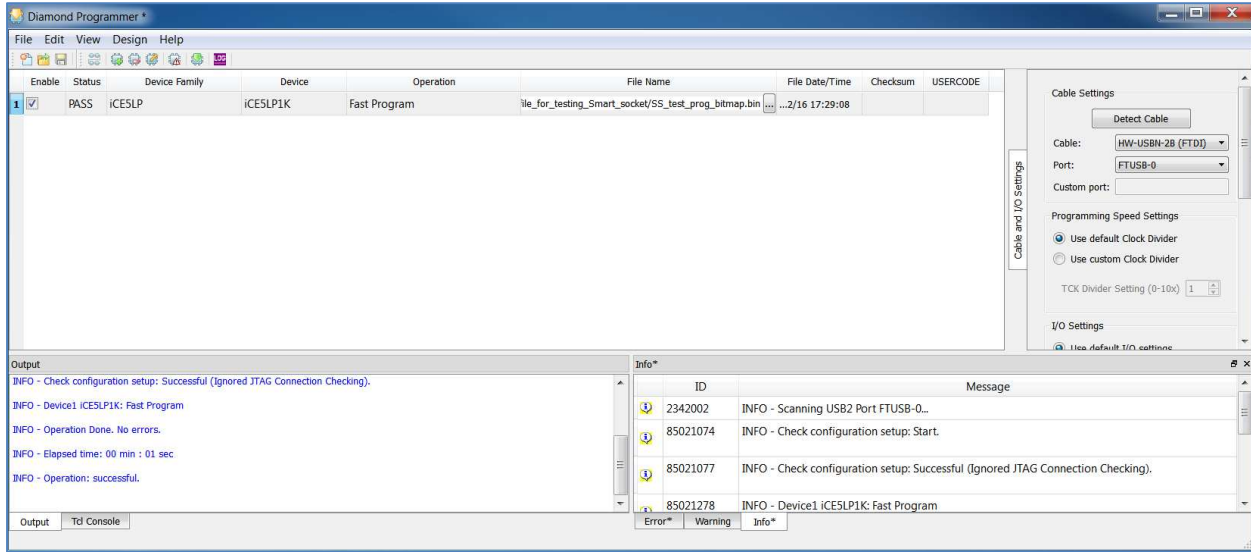

Figure 5.27. iCE40 Family – Programming Completed Successfully
5. When the programming of the device is completed, the **Status** option changes to **PASS** and **Operation: successful** message appears in the **Output** console as shown in Figure 5.27.